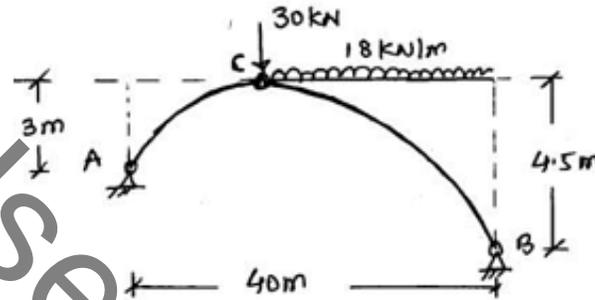

Figure: 3
3. An unsymmetrical 3-hinged parabolic arch is loaded as shown in figure 3. Locate the position of third hinge C and determine